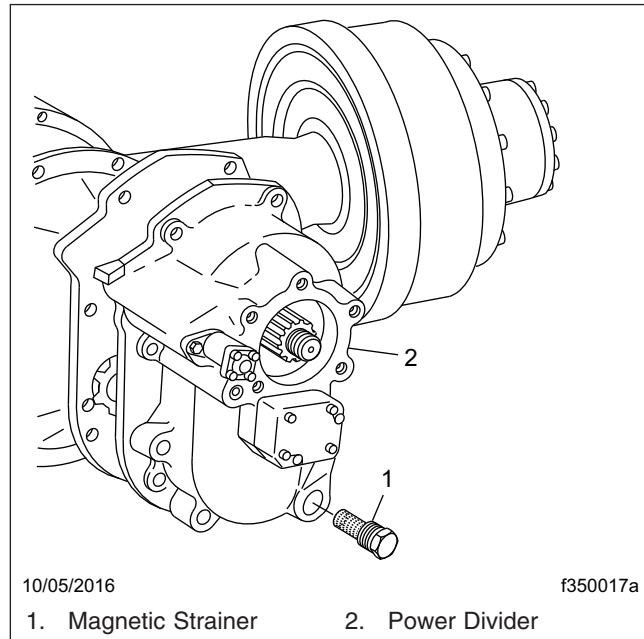

Fig. 7, Dana Spicer Tandem Drive Axle Magnetic Strainer
4. At each axle oil change, remove and clean the magnetic strainer, if equipped. See **Fig. 7**.